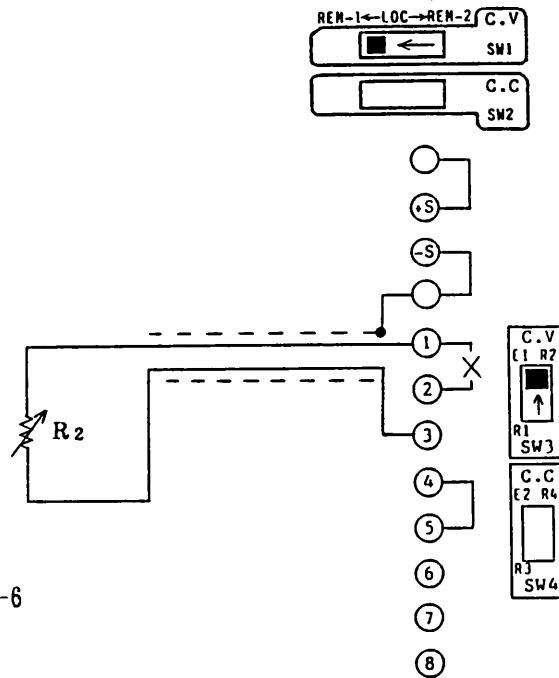

Figure 4-6
- (1) Turn off the POWER switch.
- (2) Throw the SW1 switch on the rear panel to REM-1.
- (3) Throw the SW3 switch on the rear panel to R2.
- (4) Disconnect the jumper from between terminals ① and ② of the rear terminal block.
- (5) Connect a control resistor (R2) between terminals ① and ③.
- (6) Regarding the switches for which no settings are specified in Figure 4-6, set them to the standard states as shown in Figure 2-19 (See Section 2.4.) or to appropriate states for respective modes (See Sections 4.1 through 4.11.).